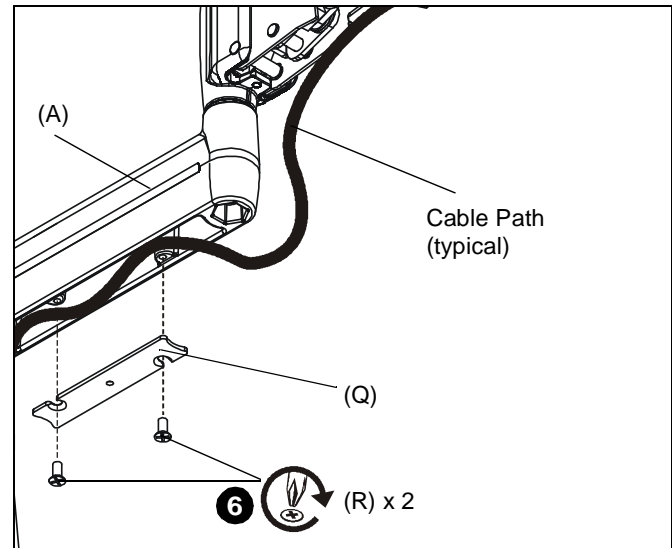

Figure 7
5. Carefully insert cables in cavity located in lower portion of static mount arm (See Figure 7).
6. Using Phillips screwdriver, install cover (Q) with two #8-32 x 3/8" screws (R). (See Figure 7)